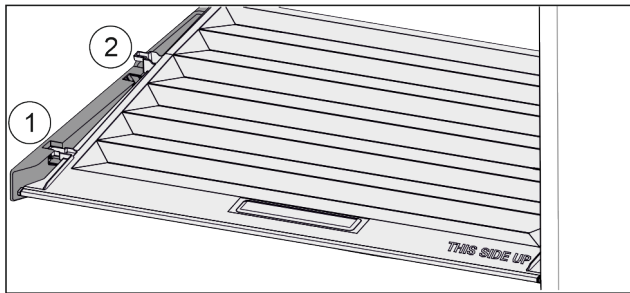

Fig. 97
- Pull the lid up at the front to the opening in the retaining parts Fig. 97 (1).
- Lift from the back and pull it up and out Fig. 97 (2).